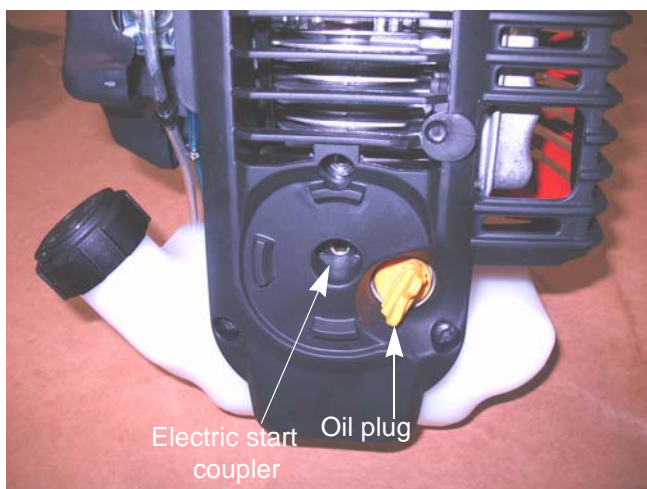

Figure 2.2
2. Remove the oil plug. See Figure 2.2.